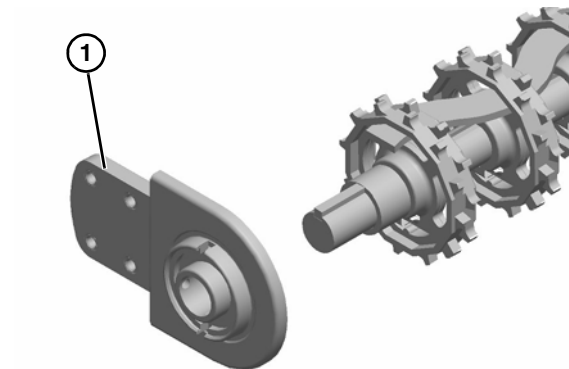

Figure 31
7. Slide the head plate with bearing (Figure 31, item 1) off the shaft.